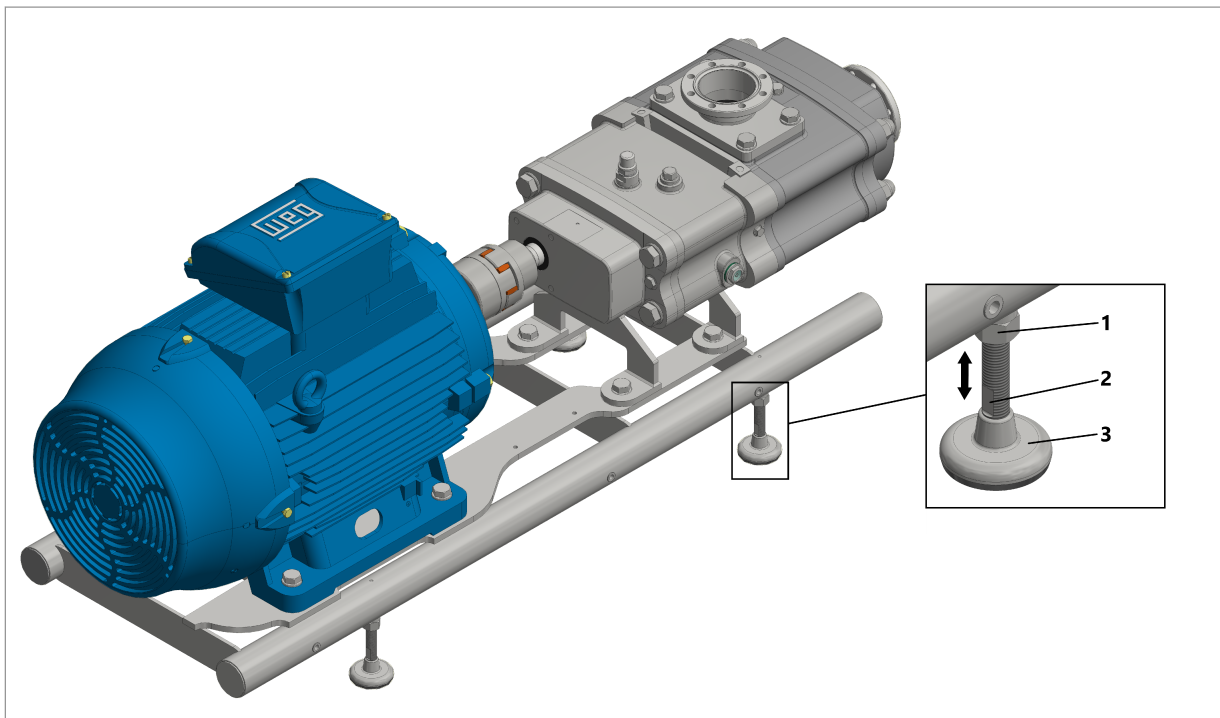

Fig. 13: Align the pump assembly
- Undo M16 nut (no. 1 in Fig. 13) on machine feet (no. 3 in Fig. 13).
- Adjust height of machine feet. This is achieved by turning the machine feet. The folded edge (no. 2 in Fig. 13) is used to support the process.
- Tighten M16 nut (no. 1 in Fig. 13) .